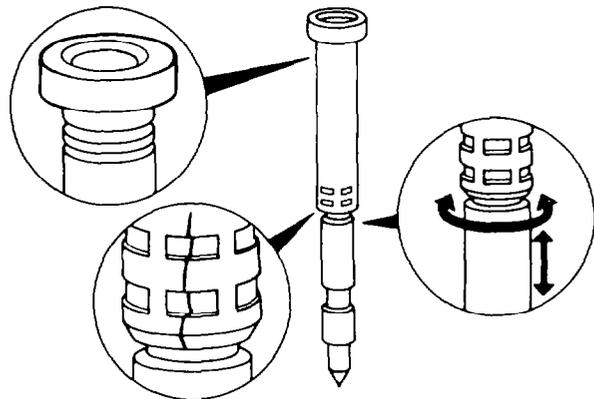

Figure 83 — Injector Plunger — Inspection
- b. Inspect the plunger for loose crimps, cracked coupling or wear spots in the spring and retainer coupling area (see Fig. 83).